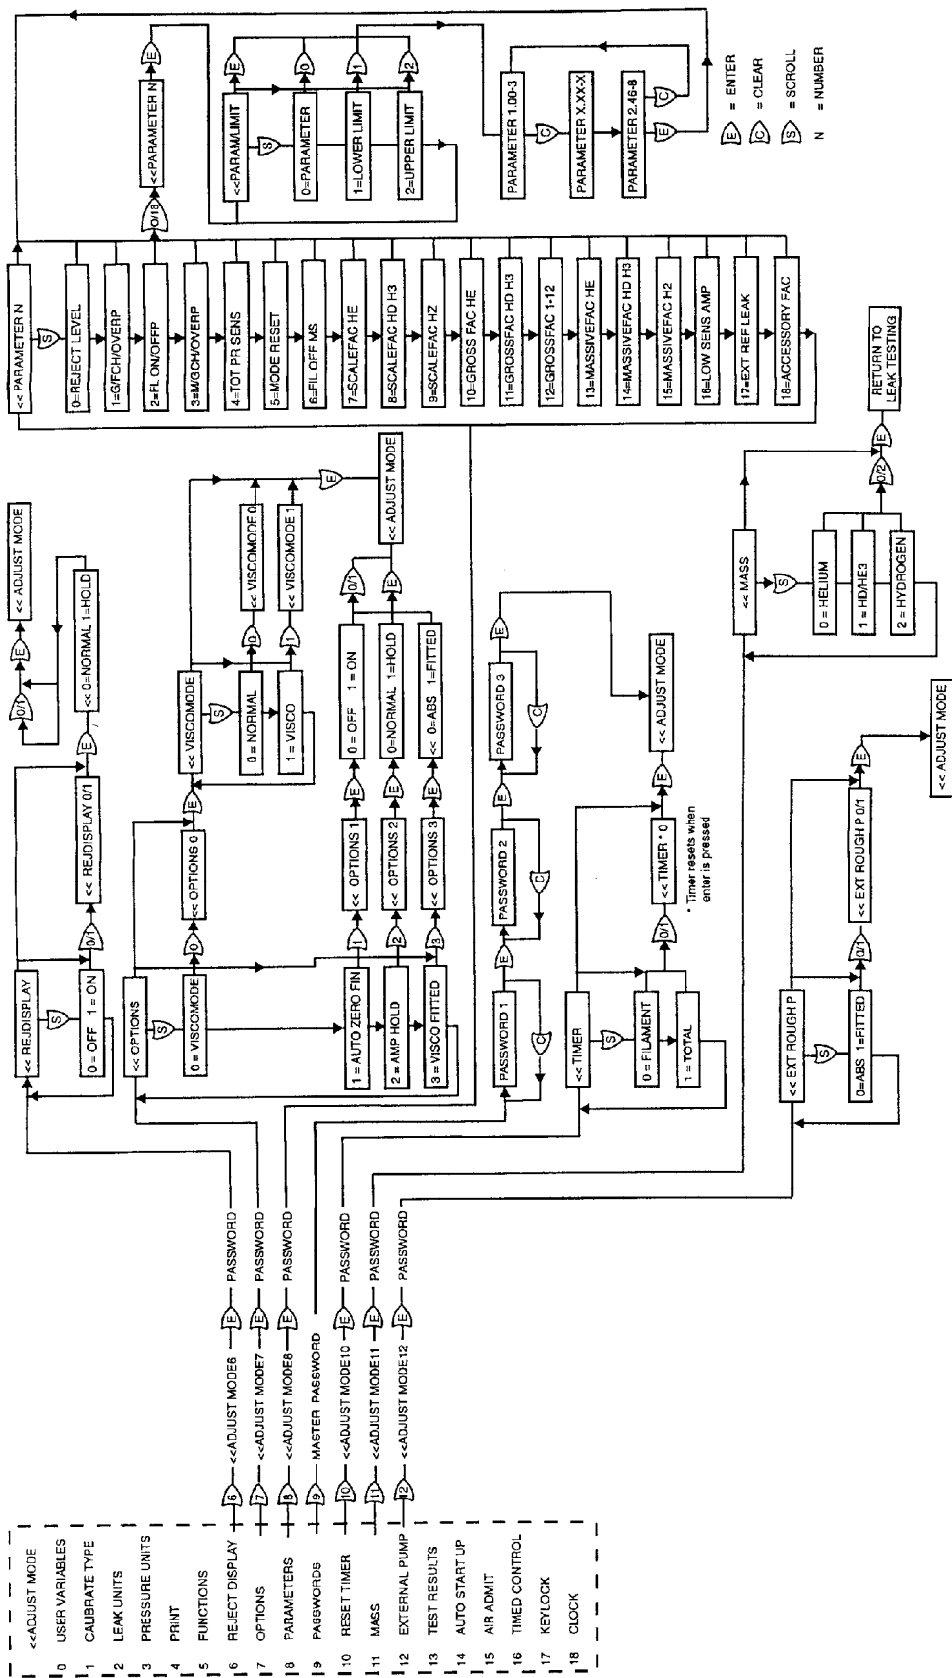

Figure 5.6 - Adjust menu part 2
When any of the labels listed below are displayed the parameters may be changed in the ADJUST MODE at menu item 8 = PARAMETERS where all eighteen parameters are listed (see Figure 5.6).